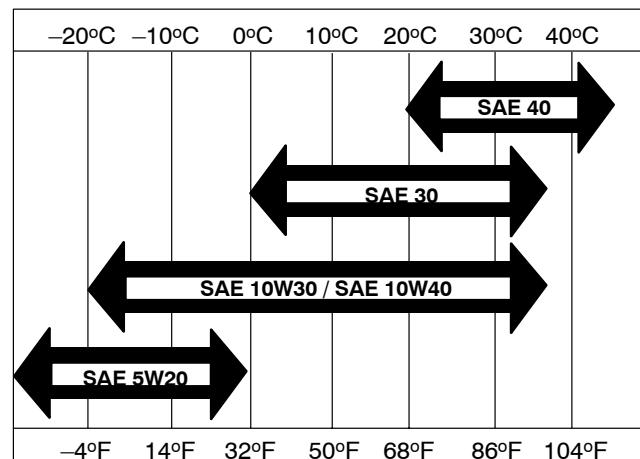

Figure 4
4. Wipe oil level gauge clean and insert it into the filler port. Do not screw it into the port. Remove and check level of the oil on the gauge. If the oil level is low, add only enough oil (see Figure 4 for proper viscosity) to raise the oil level so that it is between the marks on the gauge. DO NOT OVERFILL.